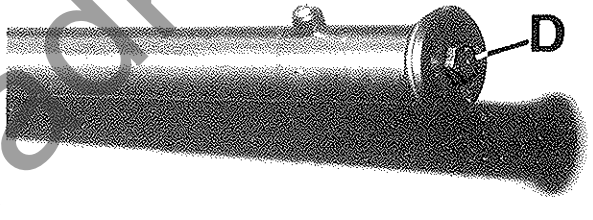
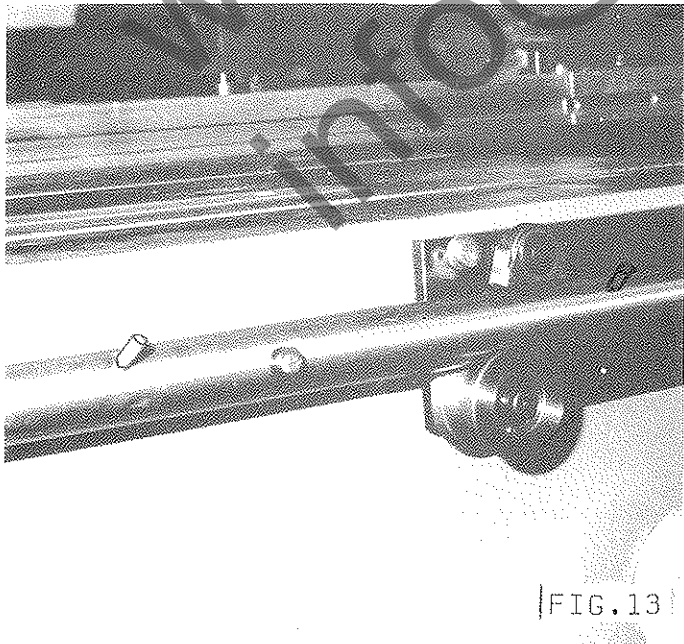

FIG. 12
FIG. 13
- 2) Loosen M10 hexagon head bolts and remove end stop 'D' FIG.12 from slide bar.
- 3) Slide bar through rollers FIG.13, with the 2 slide bar studs pointing up and out, away from table. When slide bar is in position, secure end stop to slide bar FIG.12.